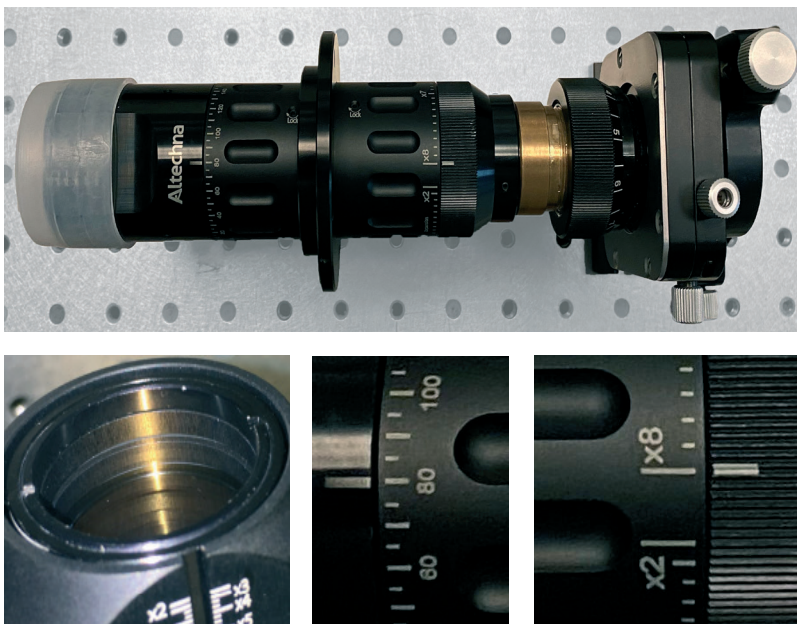

Figure 18. Setting expansion and focusing most outward.
8. Set VBE expansion scale back to “x8” and focusing scale to position “1152°” (fig. 18).